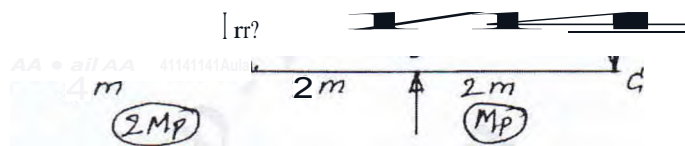

Fig.Q2(b)
- b. Analyse the continuous beam "ABC" subjected to working loads show in Fig.Q2(b) and determine the plastic moment. Use load factor is 1.5. (10 Marks)